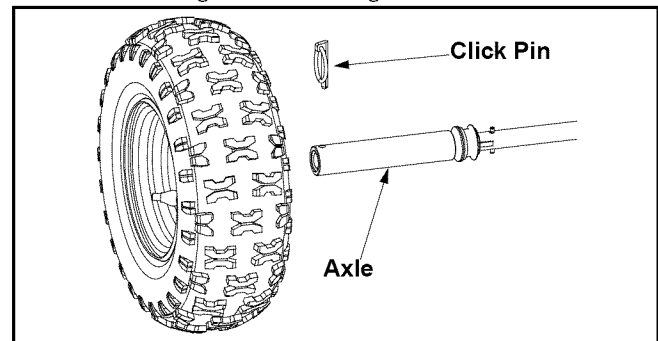

Figure 23
- Oil or spray lubricant into bearings at wheels at least once a season. Pull click pin, remove wheels, clean and coat axles with a multipurpose automotive grease. See Figure 23.